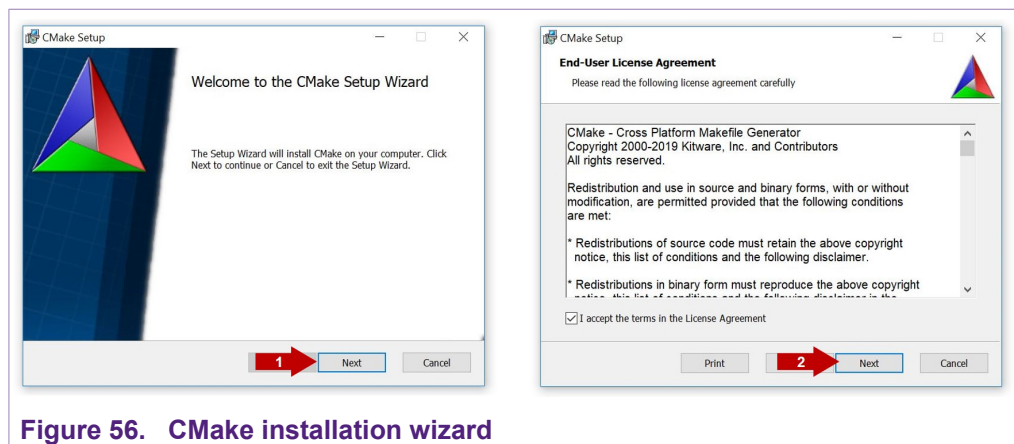

Figure 56. CMake installation wizard
5. The CMake installation wizard will open. Click (1) **Next** and (2) **accept** the End-User License Agreement as shown in Figure 56:
| Fig. 27. | Select EdgeLock SE050 Plug & Trust middleware build folder       | 21 | Fig. 56. | CMake installation wizard                                                        | 37 |